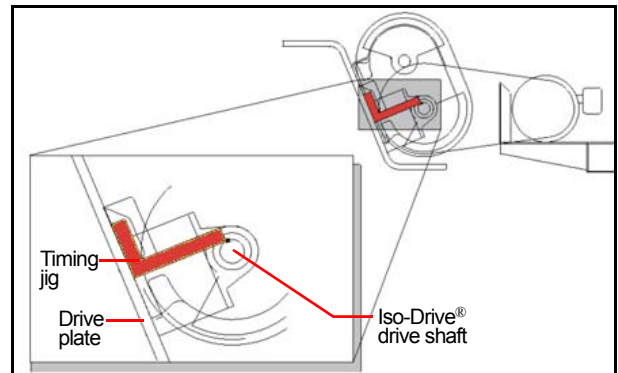

Figure 5-24 Timing Jig Against Iso-Drive Drive Shaft Key—Dual Units
3. Using the timing jigs, rotate both drives until their keys are against the jigs. For multiple views of jig placement see Figure 5-24 (perpendicular) through Figure 5-27 (parallel). Ensure that both jigs are perpendicular to the drive plate.